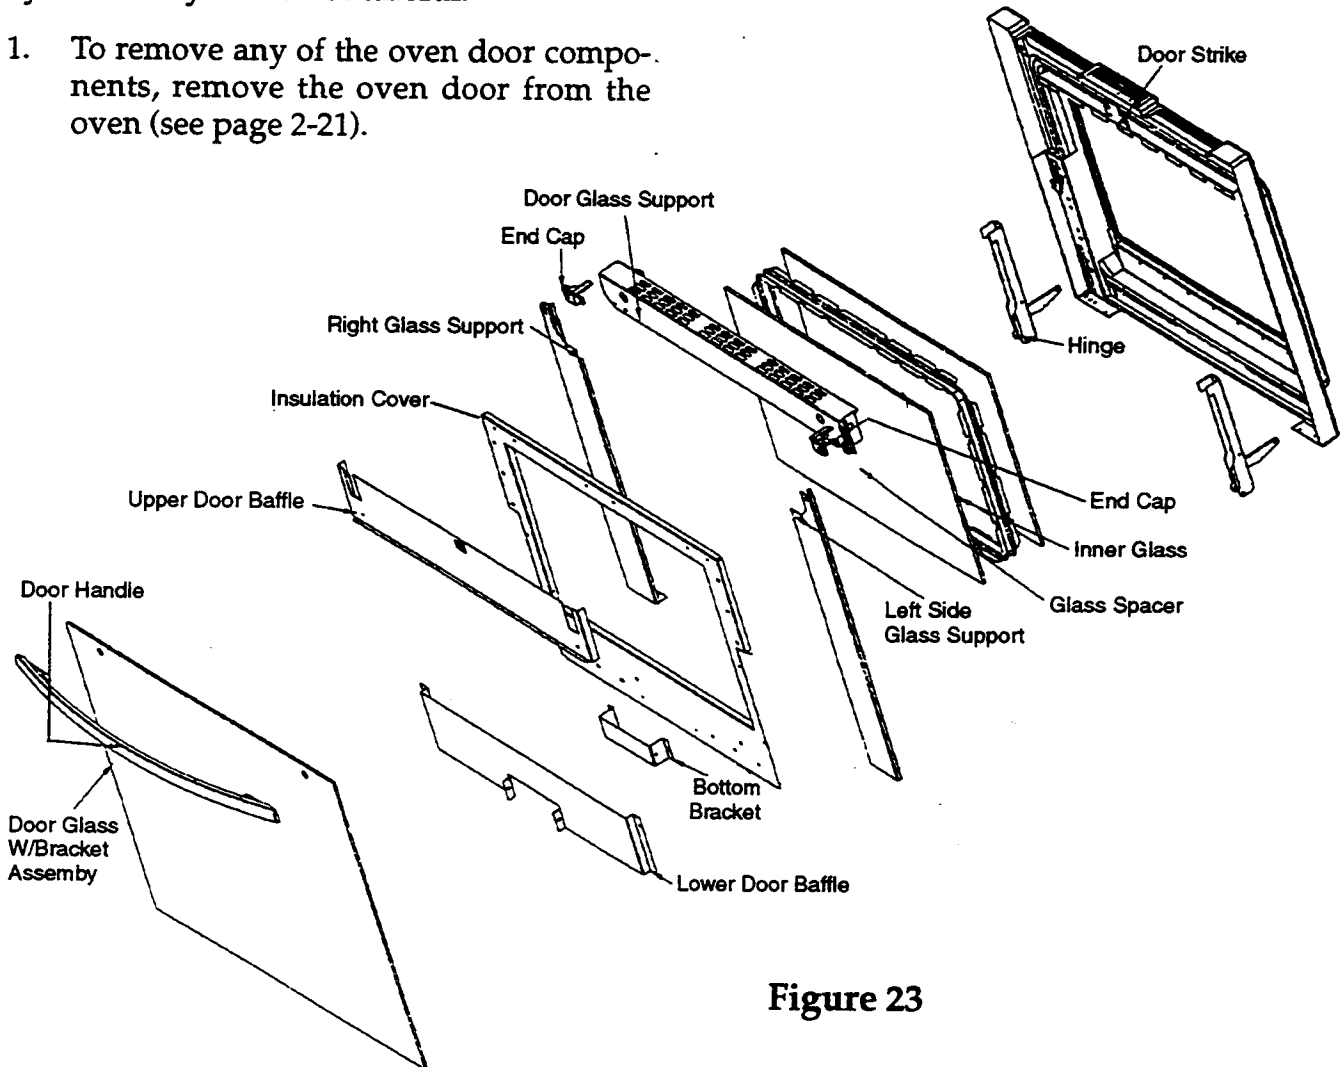

Figure 23
2. Refer to Figure 23 as you remove the door components. The illustration shows the order of removal.